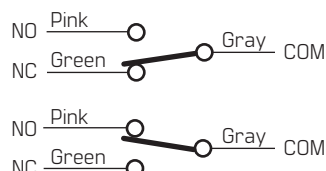
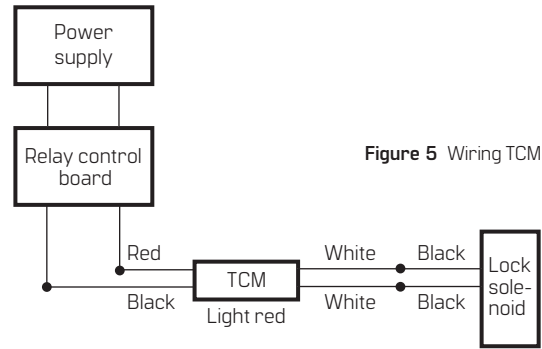

Figure 4 Understanding switch contact states
Figure 5 Wiring TCM
- 3.2 Make mortise lock connections according to specifications in **Figure 3**, **Figure 4**, and **Figure 5**.
- 4.2 Connect the red (+) and black (-) wires of TCM to relay control board or other power source using appropriate connector (see Figure 5).